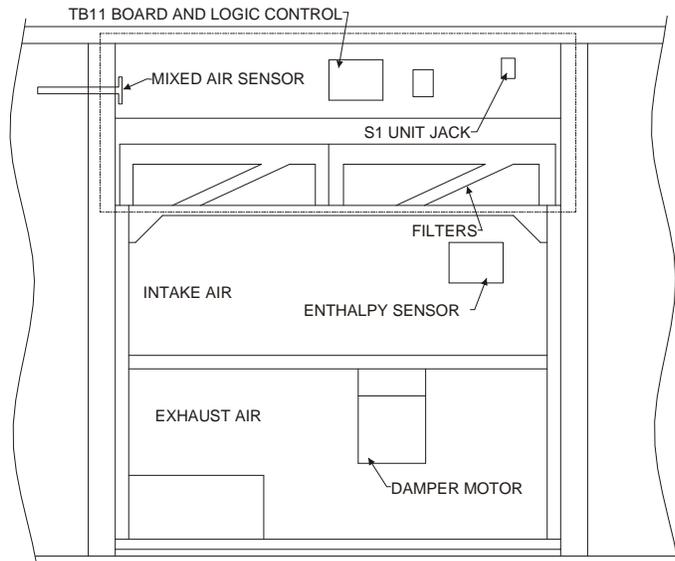

Figure 3
5. Locate S1, the unit's economizer connection and remove the installed dummy plug. **See Figure 3.**
8. Position logic control board in filter access area as shown in **Figure 3**. Secure control board with two #10-16 x ½ screws.
9. Insert mixed air sensor tube through the mounting hole into the supply air compartment. Secure using two #10-16 x ½ screws. **See Figure 3**.